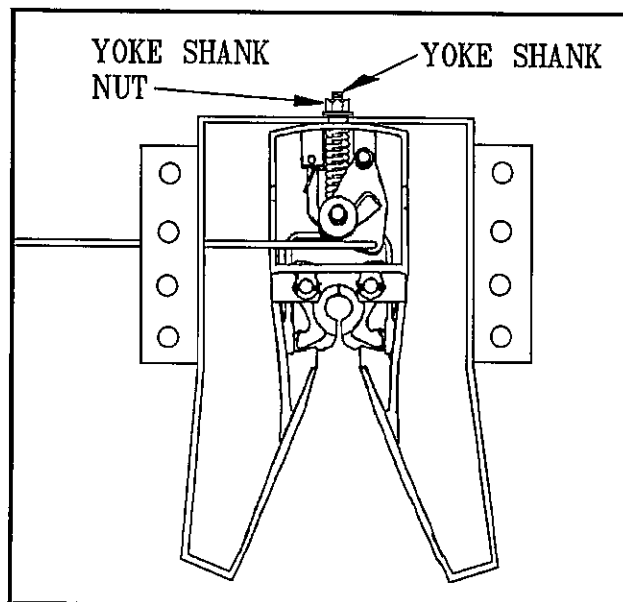

FIG. 6-1 FIFTH WHEEL ADJUSTMENT
d. If the plug fits loosely, tighten by rotating the nut on the shank counter-clockwise. It may be necessary to tap the end of the yoke shank lightly to allow the nut to seat against the top plate. (See FIG. 6-1)